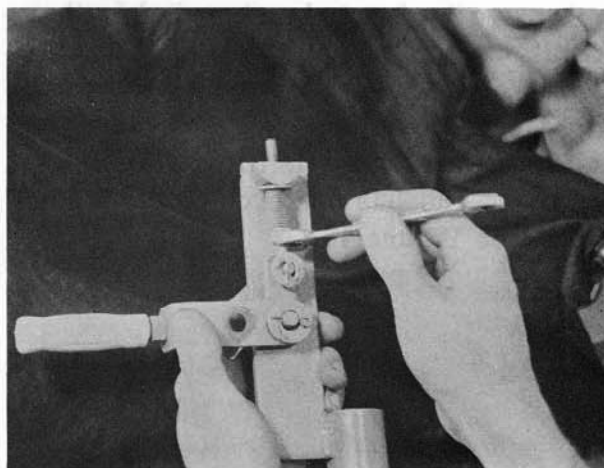

Figure 51
29. Adjust the Toggle Spring so that the spring comes almost to solid height as the Shifter Lever snaps over center--a spring height of about $29/32$ "--and lock the two Hex Head Nuts (201-N) shown in Figure 51.